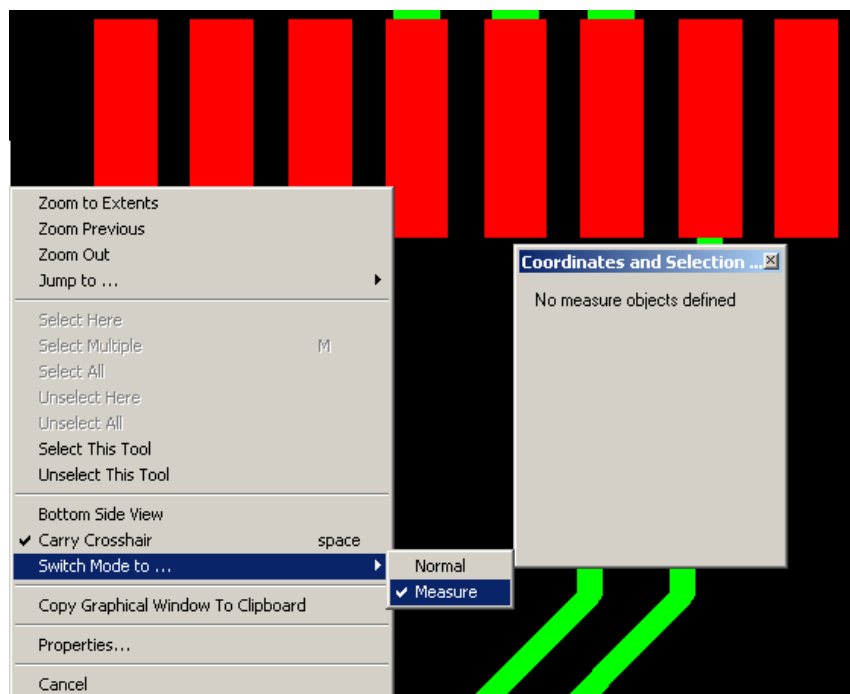

Figure 15: Measuring
1. In Normal mode, select a pad or two. They will turn white. Right click while the crosshair is over one of the pads and select **Properties**. The Properties page appears (Figure 15).